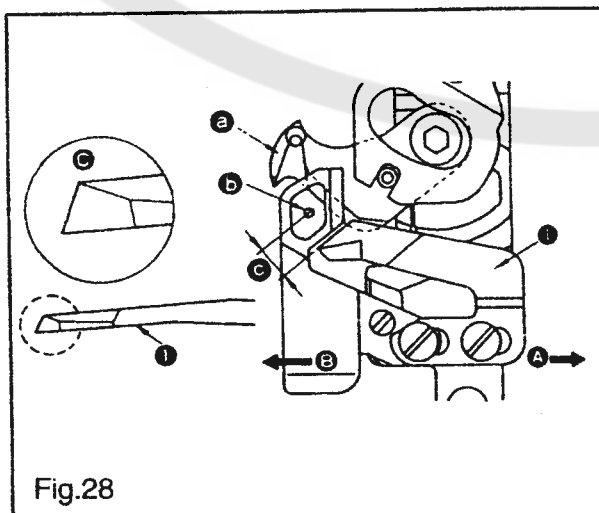

Fig.28
1)Loosen setscrew ① , and adjust the presser bar height or the angle of the presser foot .
24.COUNTER KNIFE (Fig.28)